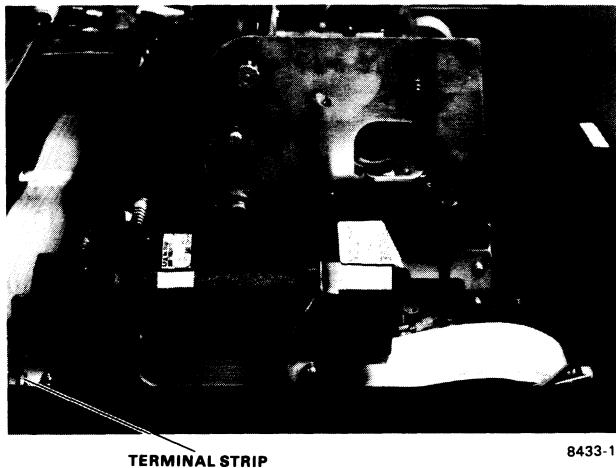

Figure 7-18 DC Motor/Encoder Cabling
3. Remove the 4-40 screw and nut from the terminal strip (Figure 7-18).
9. Remove the 4-40 screw and nut from the terminal strip (Figure 7-18).